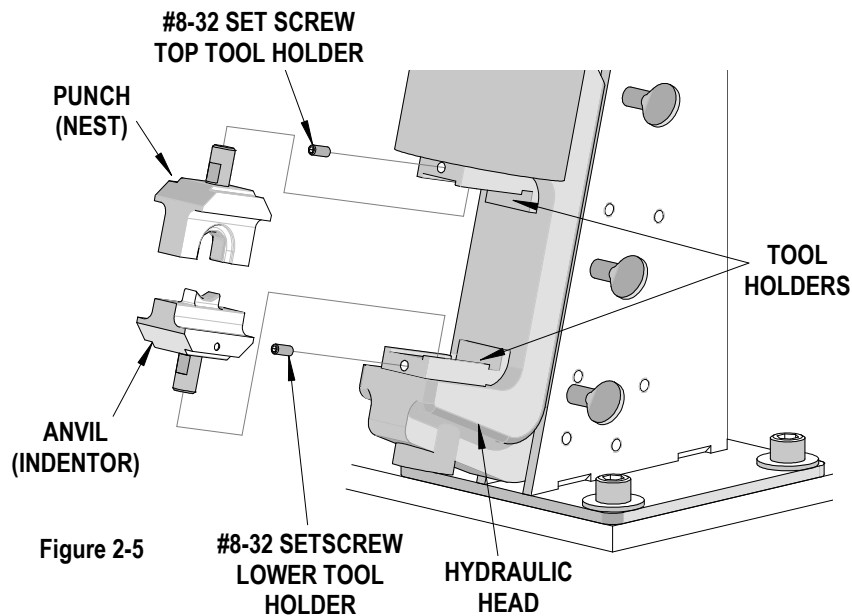

Figure 2-5
3. Loosen the #8-32 setscrew in the upper tool holder in the hydraulic head assembly. Place the punch (Nest) in the top tool holder and retighten the setscrew. See Figure 2.5.